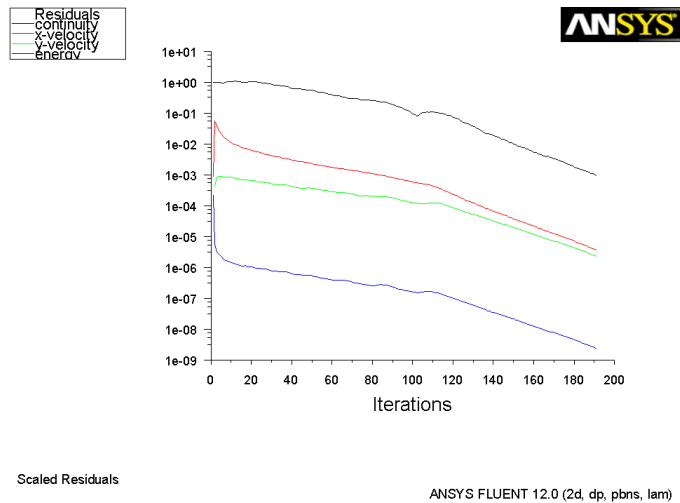

Figure 3: Scaled Residuals
2. Start the calculation for 300 iterations (see Figure 3).